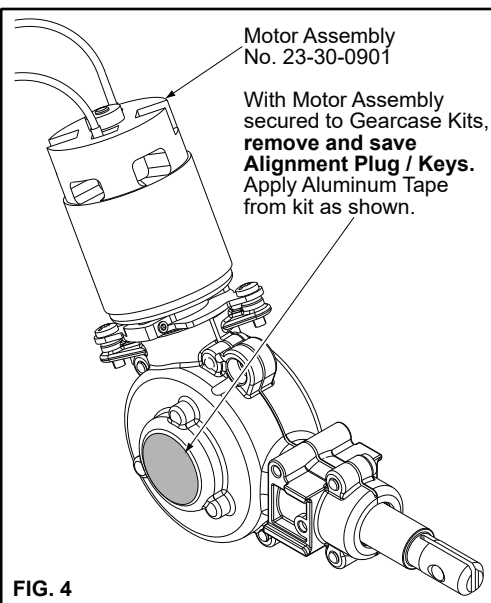

FIG. 4
11. Remove left and right alignment plug (s) and apply aluminum tape disc from kit to the right of gearcase (fig.4). **SAVE PLUGS** incase motor needs servicing or replacing.